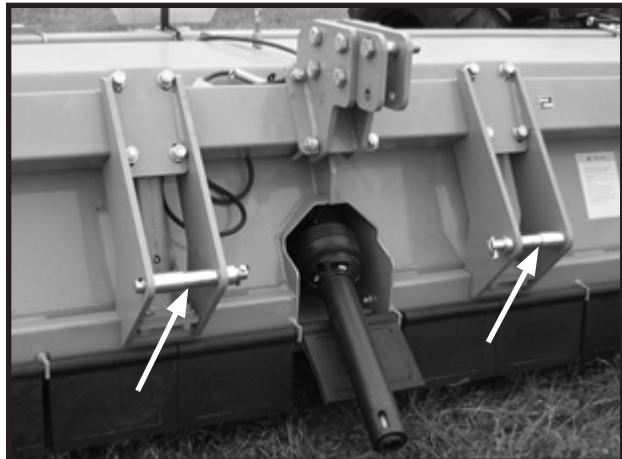

Figure 7. Attaching to 3-point model
6. Align the claws under the mounting pins (see Figure 7) while backing up.